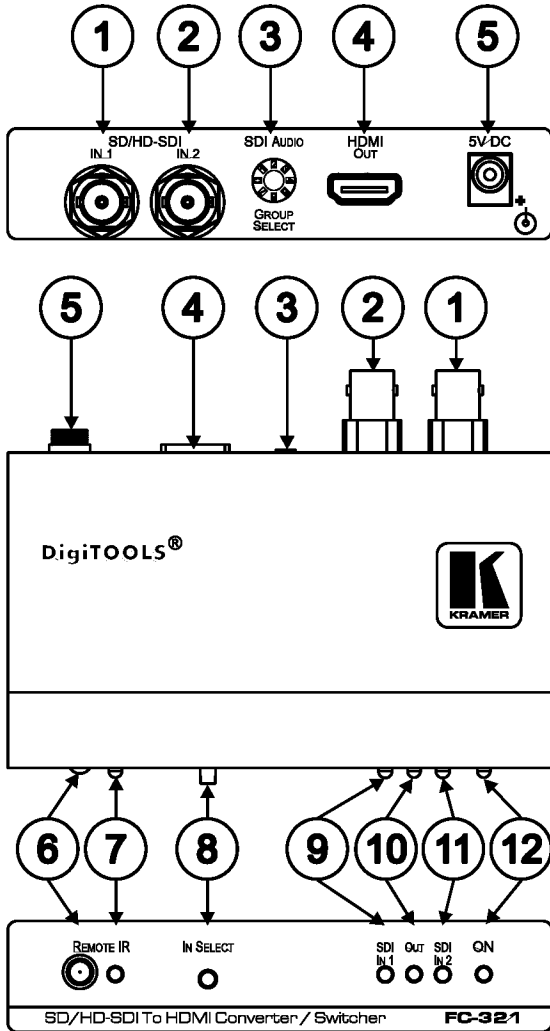

Figure 1: FC-321 SD/HD-SDI to HDMI Converter/Switcher
*Figure 1 and Table 1 define the FC-321 SD/HD-SDI to HDMI Converter/Switcher.*